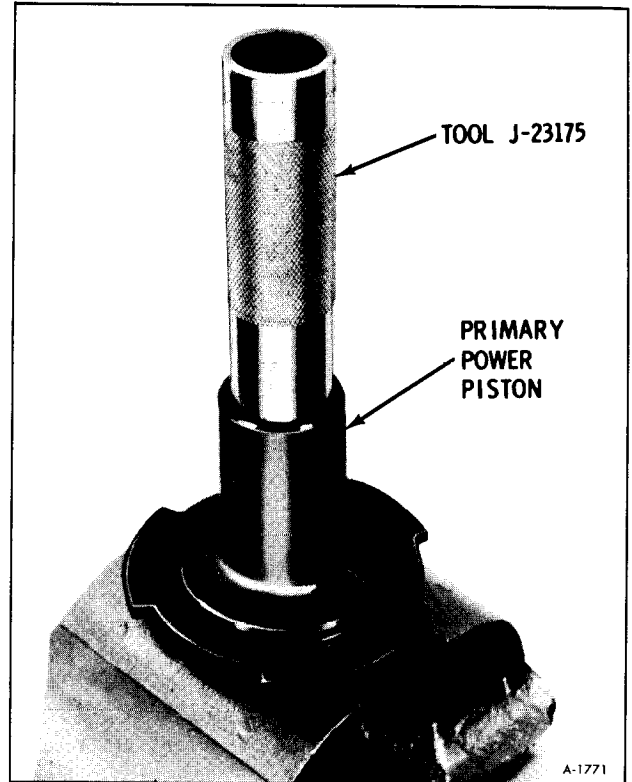
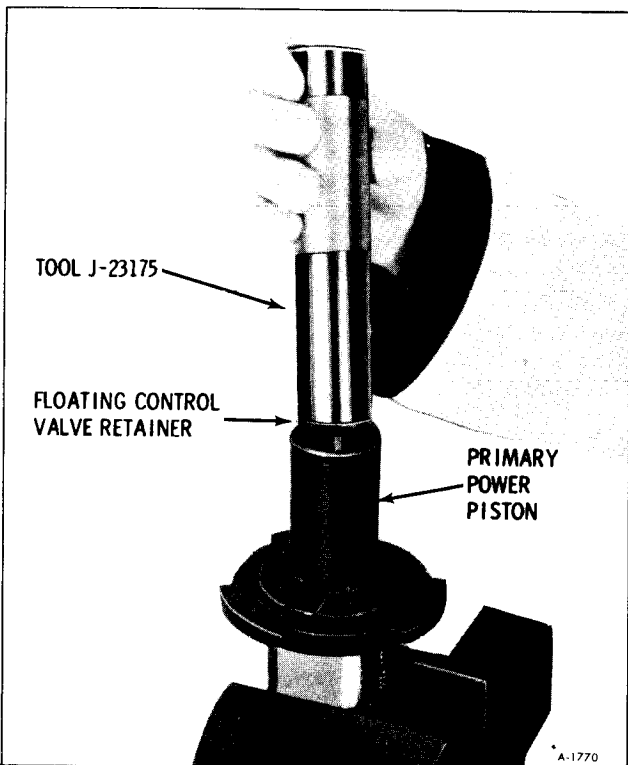

Figure 47—Retainer Ring Seated
Figure 46—Installing Retainer Ring
5. Place lip of retainer on the O.D. of Tool J-23175. (figure 46) Manually press the retainer until seated in the primary power piston tube. (figure 47)